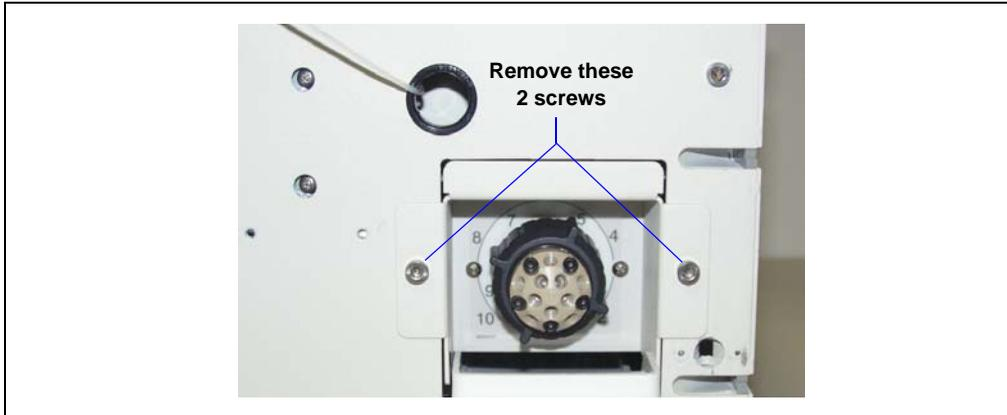

Figure 5-13. Removing the Valve Assembly
- a. Use a 3-mm Allen wrench to remove the two screws holding the valve assembly in place (see Figure 5-13).